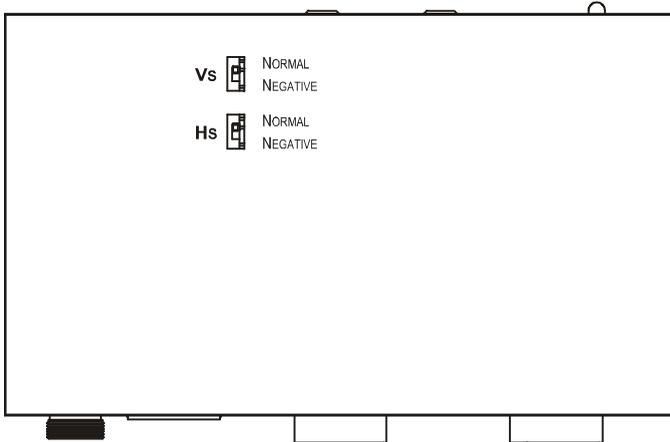

Figure 3: VP-200XLTHD XGA Line Amp / CAT 5 Transmitter
*Figure 3 and Table 3 define the **VP-200XLTHD**:*